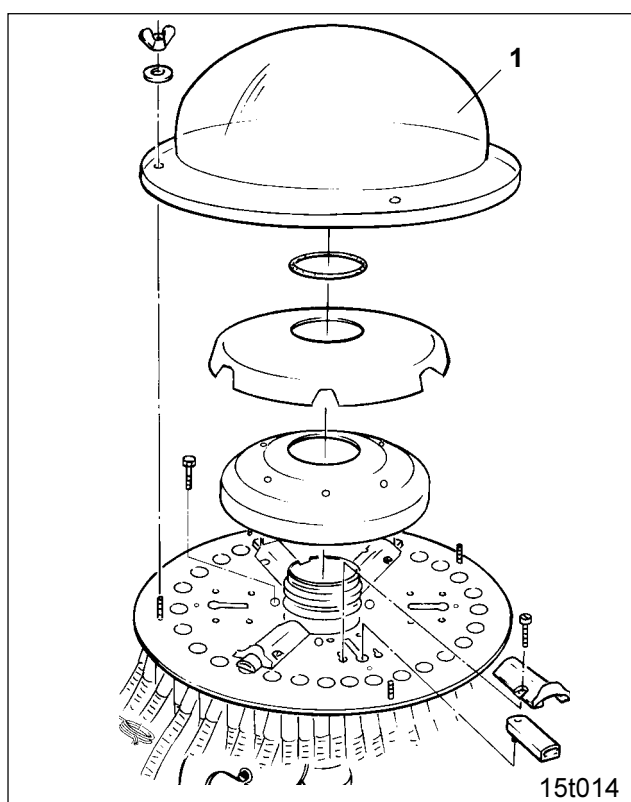

Fig. 50.8
- Remove outer hood (Fig. 50.8/1) of the distributor head.